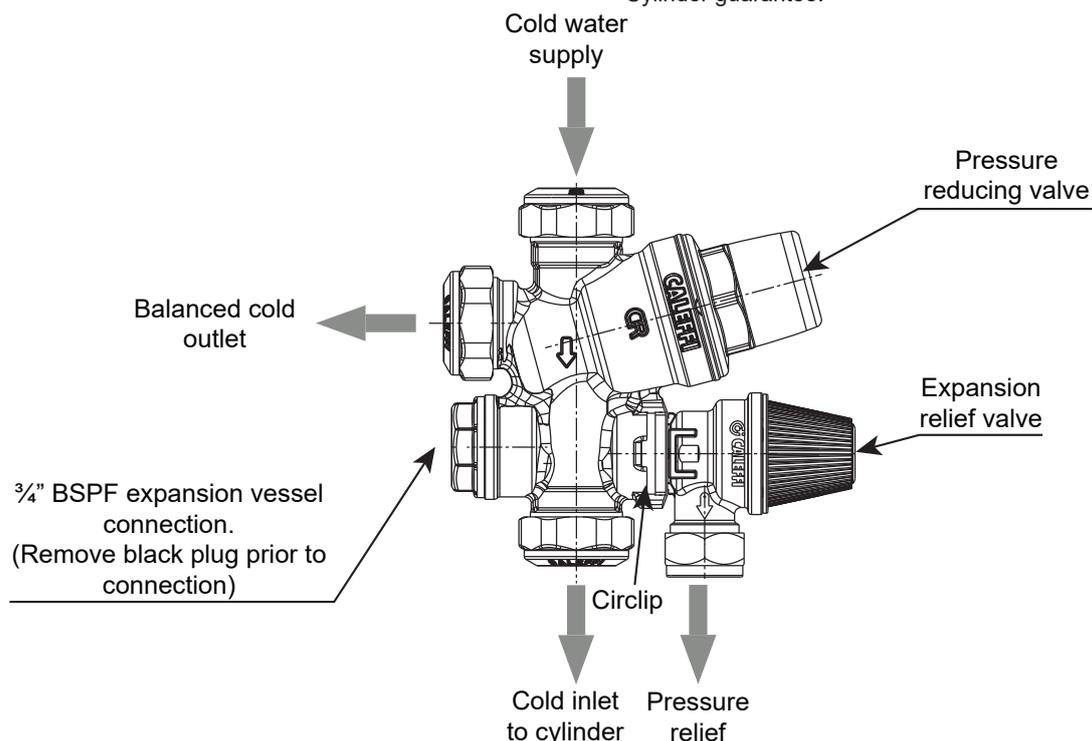

Figure 4-1: Cold water inlet manifold (orientation as fitted on a Grant QR cylinder)
A balanced cold water connection is provided on the inlet manifold. Refer to Figure 4-1. This should only be used to provide balanced cold supplies to shower valves and mixer taps. If the balanced cold water outlet is not required, blank off this port.
6. Connect the expansion vessel directly to the ¾" BSPF connection in the inlet valve manifold body, after removing the black plastic plug. See Figure 4-1 and Section 4.4.
This expansion vessel must be connected into the cold water supply, between the expansion relief valve (in the inlet manifold) and the cold water inlet to the cylinder. Refer to Figure 4-1.
The preferred method of connection is to hard pipe the expansion vessel directly to the 3/4" BSPF connection in the inlet valve manifold body using 22mm diameter pipe. Refer to Figure 4-1.
1. Remove the black plastic plug from the inlet manifold body (refer to Figure 4-1).